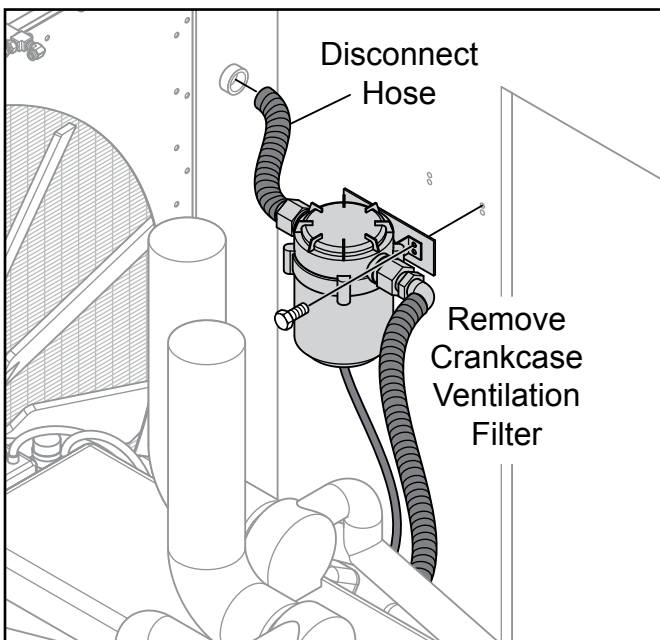

Figure 6. Crankcase Ventilation Filter Removal
9. Remove the crankcase ventilation filter and ventilation hose on the right side of the container to make room to remove the shroud from the container generator. See Figure 6.